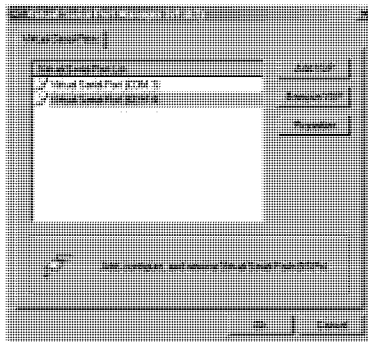

Figure 11: The Virtual Serial Port Properties Window (COM 3 and COM 4)
3. You can set a virtual port for each local port on your **FC-10ETH** (see Figure 11).